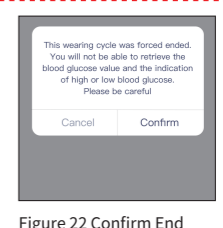

Figure 22 Confirm End Session
- To end the sensor session during a regular monitoring session, tap Forced termination. There will be a pop-up window for you to confirm, as shown in Figure 22 If the monitoring session is terminated from AnytimeWell, it will show "No device connected". This results in permanent detachment between the transmitter and the phone App. The system is ready to start a new link for a new sensor.